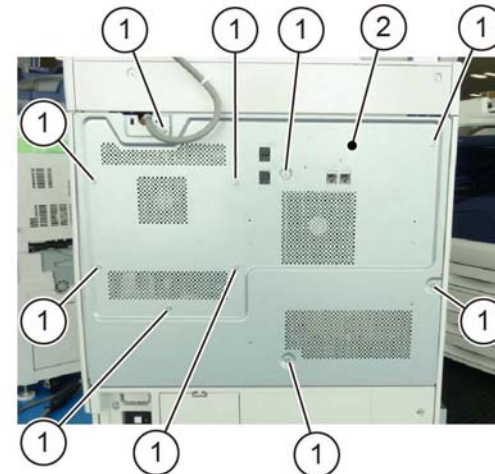

Figure 1 Upper rear cover removal
1. Remove the upper rear cover, Figure 1:
- a. Remove ten screws (1).
- b. Remove the upper rear cover (2).